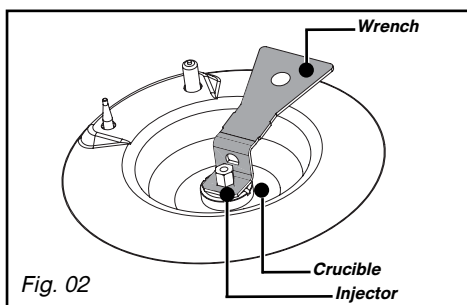

Fig. 02
– **Use a reinforced rubber hose with screw-on mechanical** connectors (compliant with the NF D 36-112 standard) with a 10-year guarantee (Fig. 02).
– Using the tool provided, unscrew and remove the injectors located under each crucible (Fig. 02).
– Press touch control  twice (Fig. 02).